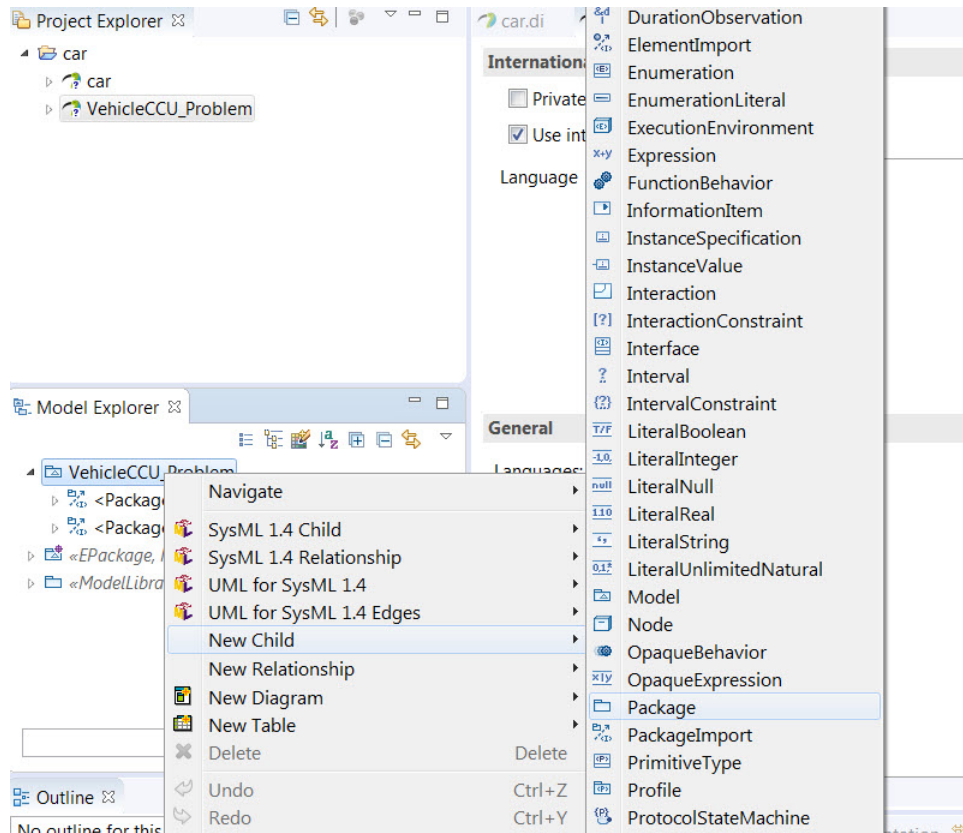

Figure 9: Create a New Package
2. Right-click on the *VehicleCCU_Problem* top level folder in the *Model Explorer* window and then select **New Child** and then **Package** (figure 9). The new package will appear under the *VehicleCCU_Problem* folder. Name the package *1 Problem Domain*. (Note that if you have already hit enter the package is named with a default name like *Package14* and it can be renamed in the UML properties tab at the bottom of the main window.